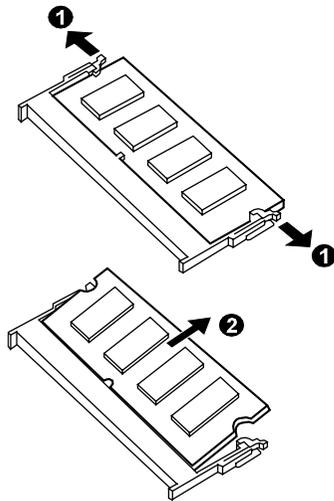

Figure 5-15
2. Pull the retaining clips outwards (❶) and remove the SO-DIMM (❷). (figure 5-15)